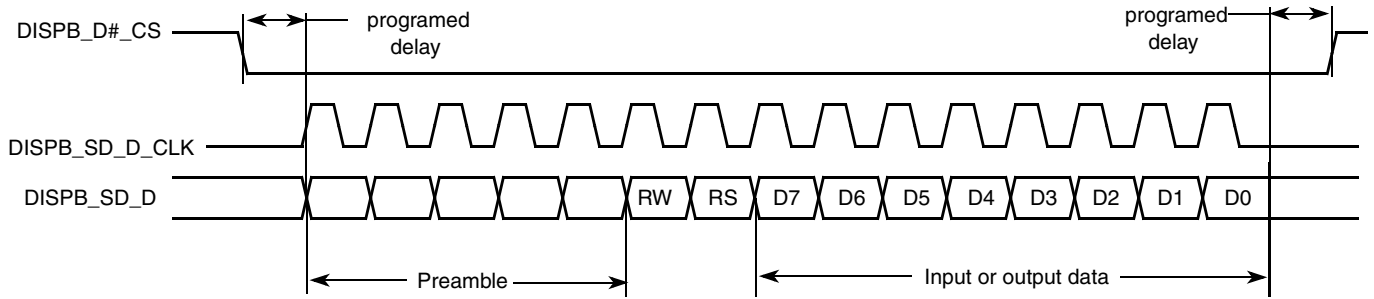

Figure 56. 3-Wire Serial Interface Timing Diagram
**Figure 56** depicts the timing diagram of the 3-wire serial interface. The timing diagrams correspond to active-low IPP#\_CS signal and the straight polarity of the IPP\_CLK signal.